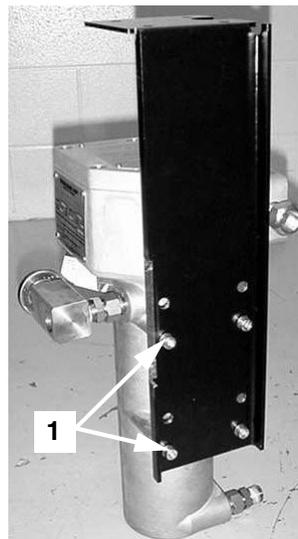

FIG. 5
6. Secure heater to bracket (1) with screws and lock-washers supplied with heater. Use the lower mounting hole pattern for an A side heater, FIG. 5. Use